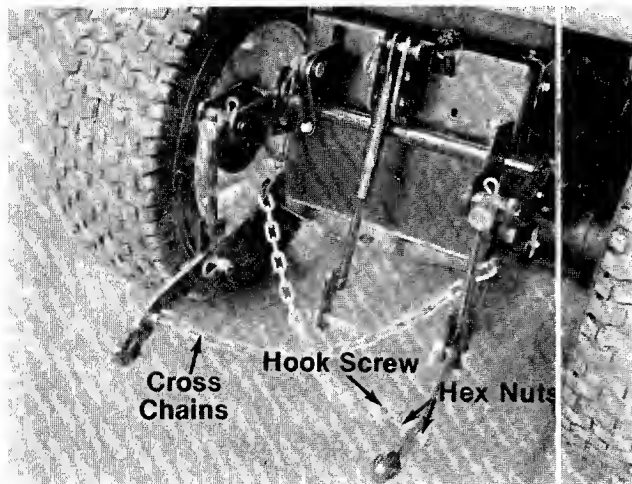

FIGURE 8.
8. Screw one hex nut all the way on to each of the hook bolts. See figure 8.